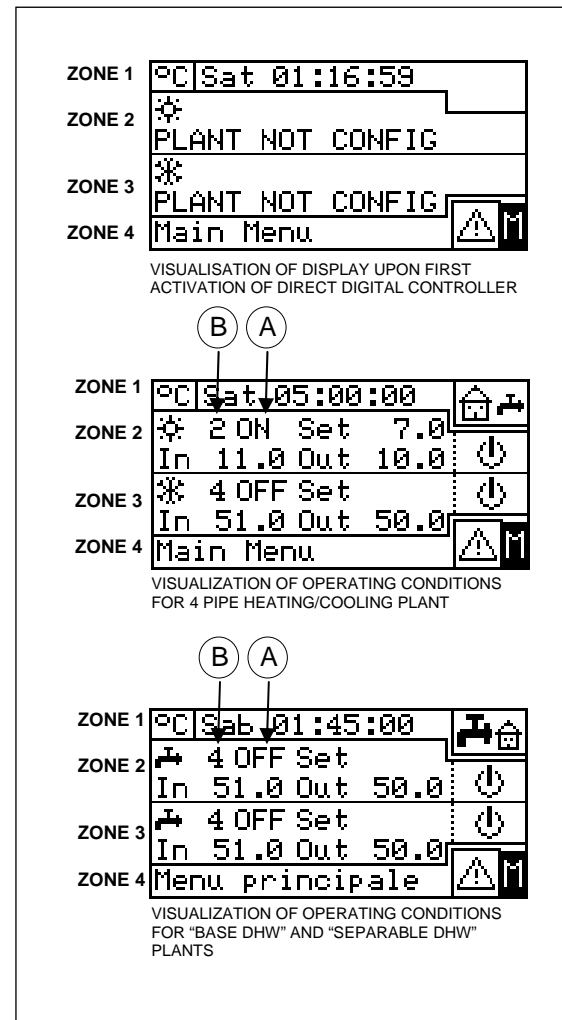

Figure 2 - EXAMPLES OF MAIN SCREEN
- 2 - Select the  symbol positioned above to gain access to “**Base DHW control**” menu (see “Zone 5” Figure 2 on page 6).
- 3 - Select the  symbol positioned below to gain access to “**Separable DHW control**” menu (see “Zone 6” Figure 2 on page 6).